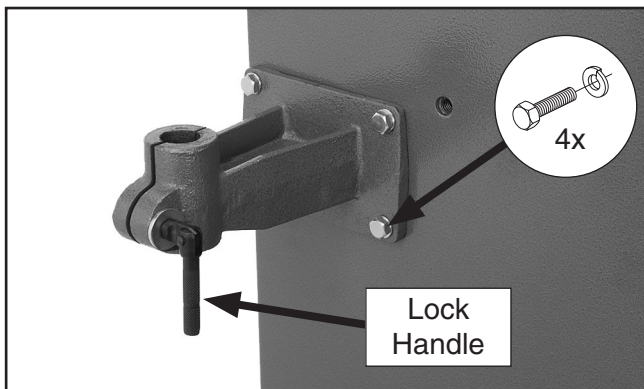

Figure 16. Leadscrew bracket installed.
2. Attach the leadscrew bracket (**Figure 16**) to the front of the stand using the four pre-installed $\frac{3}{8}$ "-16 x 1" hex bolts and lock washers, then install the lock handle with the thin $\frac{3}{8}$ " flat washer.